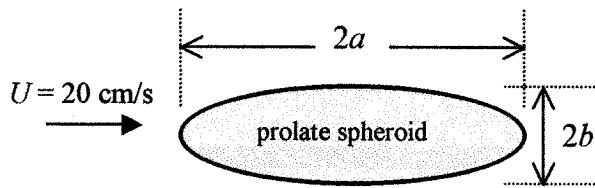

Fig. P7.52
**7.52** Clift et al. [46] give the formula  $F \approx (6\pi/5)(4 + a/b)\mu Ub$  for the drag of a prolate spheroid in *creeping motion*, as shown in Fig. P7.52. The half-thickness  $b$  is 4 mm. See also [49]. If the fluid is SAE 50W oil at 20°C, (a) check that  $\text{Re}_b < 1$ ; and (b) estimate the spheroid length if the drag is 0.02 N.